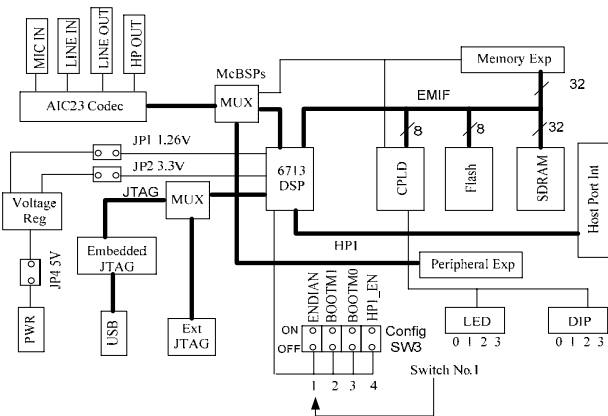

Fig. 1 Block diagram of the TMS320C6713 DSK board [12]
Digital signal processors such as the TMS320C6x family of processors are like fast special-purpose microprocessors with a specialized type of architecture and instruction sets suitable for signal processing [2]. The TMS320C6713 DSK board is powerful and relatively cheap, having the necessary supporting tools for real-time signal processing [2]-[11]. It includes the TMS320C6713 floating-point digital signal processor and a 32-bit stereo codec TLV320AIC23 (AIC23) for input and output (see Fig.1). The onboard codec AIC23 uses a sigma-delta technology that provides A/D and D/A [2]. The DSK board operates at 225MHz and it can be easily set to variable sampling rates of 8 to 96 kHz [2]. Four connectors on the DSK board provide input and output. They are: LINE IN for line input, MIC IN for microphone input, LINE OUT for line output, and HEADPHONE for a headphone output. Note that LINE OUT is multiplexed with HEADPHONE. The status of the four user dip switches on the DSK board can be read, which provides the user with a feedback control interface. For more information regarding the TMS320C6713 DSK board, refer to references [12], [13], [18]-[20].
1. Switch 1 in the Config SW3 as shown in Fig.1 must be placed in the **OFF** position [12], [14], [15].
1. Switch No.1 in the Config SW3 as shown in Fig.1, must be in the **ON** position.
4. Add the library file: **rts6701e.lib** for assembly language programming and add the library files: **rts6701e.lib**, **cs16713e.lib**, **dsk6713bsle.lib** for signal processing (i.e. input and output manipulation). For more clarity see Figs. 1 and 3.